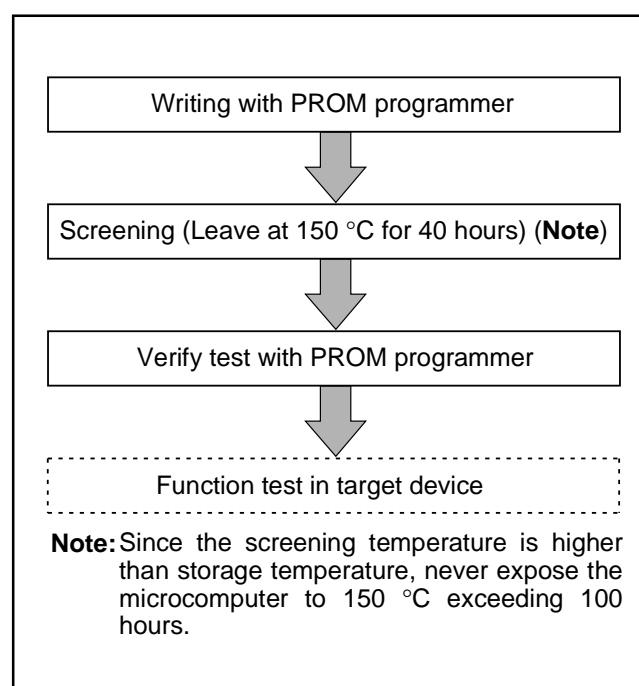

Fig. 55 Flow of writing and test of the product shipped in blank
(2) Notes on handling
① A high-voltage is used for writing. Take care that overvoltage is not applied. Take care especially at turning on the power.
② For the One Time PROM version shipped in blank, Renesas corp. does not perform PROM writing test and screening in the assembly process and following processes. In order to improve reliability after writing, performing writing and test according to the flow shown in Figure 55 before using is recommended (Products shipped in blank: PROM contents is not written in factory when shipped).